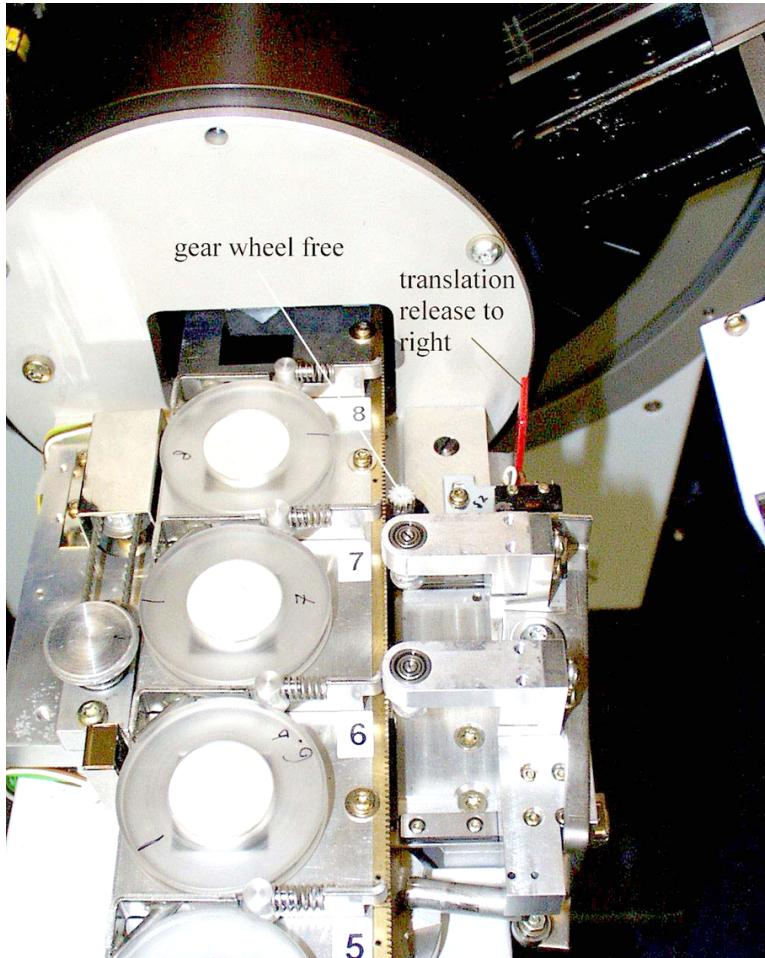

Figure 5.50: Magazine translation released
1. Red “translation release” actuator of sample translation must be in out position (right, Figure 5.50).